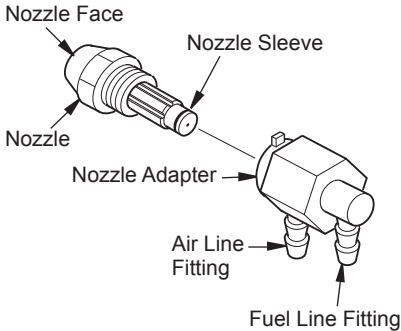

Figure 17 - Nozzle and Nozzle Adapter
6. Carefully remove nozzle from the nozzle adapter using 5/8" socket wrench (see Figure 17, page 13).
9. Replace nozzle into nozzle adapter until nozzle seats. Tighten 1/3 turn more using 5/8" socket wrench 4.5 to 5.1 N-m (40 to 45 in-lbs). See Figure 17, page 13.